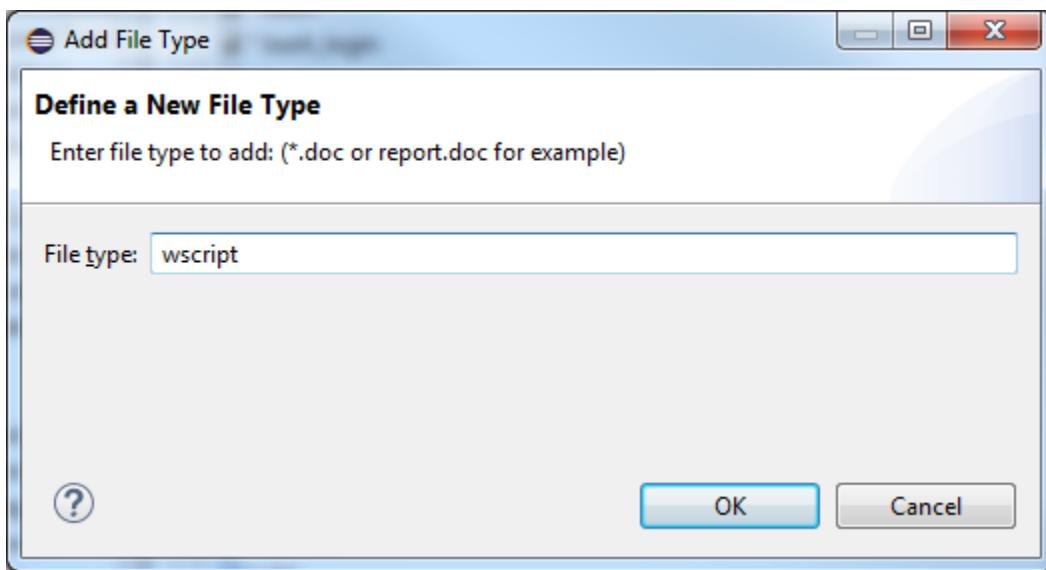

Fig. 11.18: File type definition
4. Define the file type wscript and click  , as shown in Fig. 11.18.